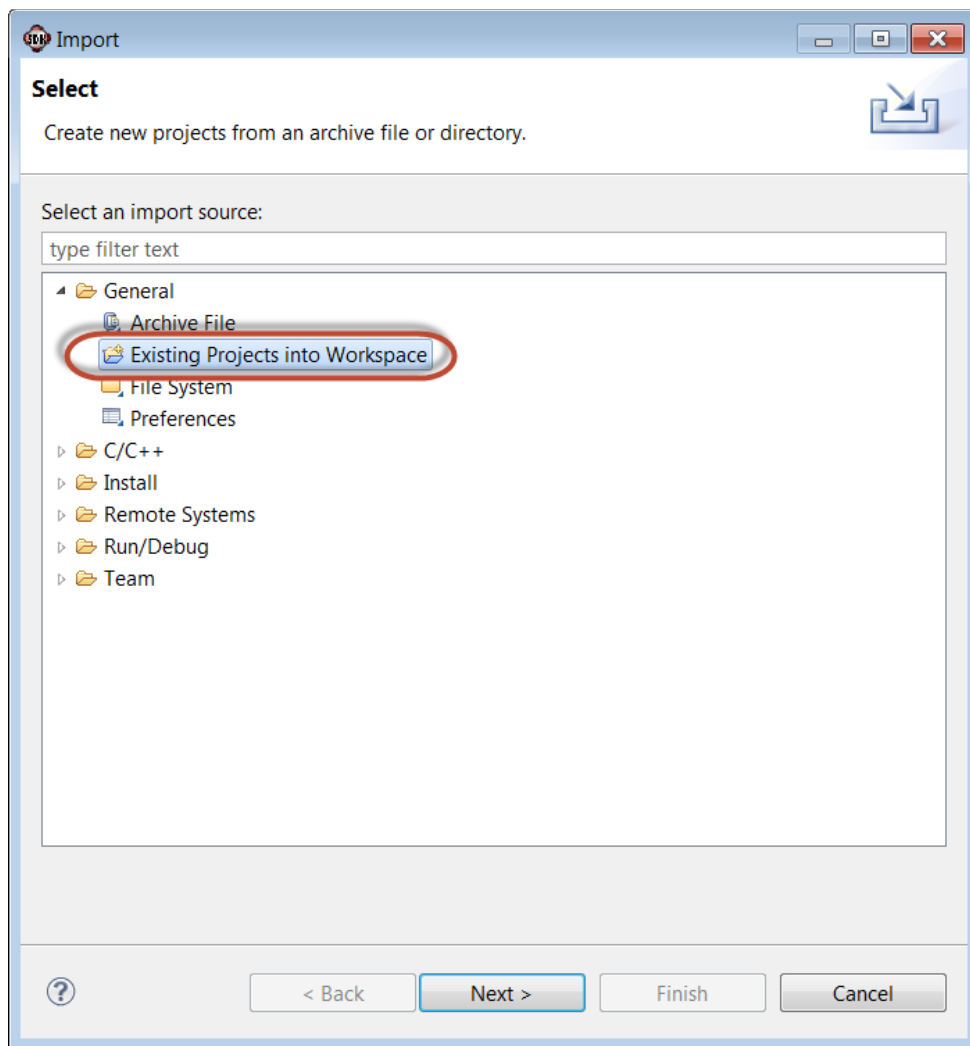

Figure 16: Importing Eye Scan Software Step 2
9. An Import window launches. Select **General > Existing Projects** into Workspace and then click **Next** as shown in Figure 16.